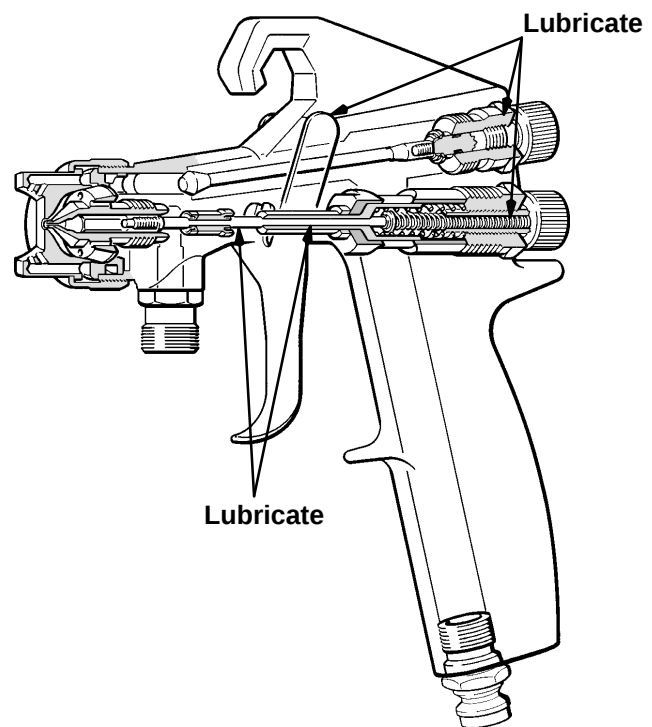

Fig 4
5. Lubricate the gun daily, after cleaning it, at the points marked in Fig 4. Periodically lubricate the fluid needle spring (16) with lubricant 111-265 (see **ACCESSORIES** to order).